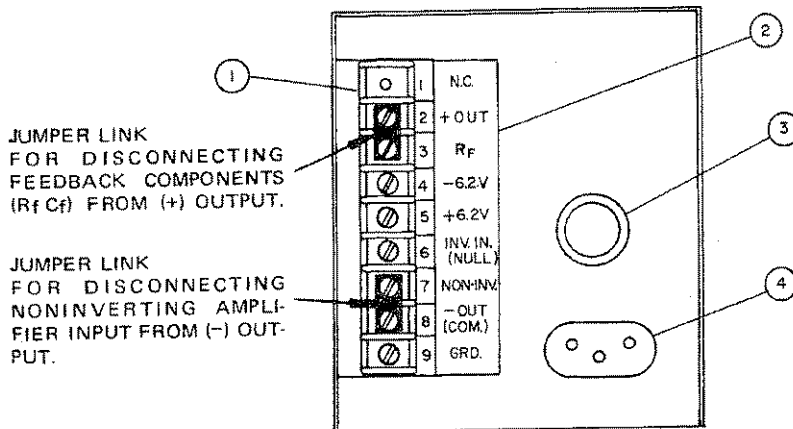

FIG. 2-3 TERMINATIONS, REAR
- b) REAR: Refer to FIG. 2-3 and TABLE 2-3.